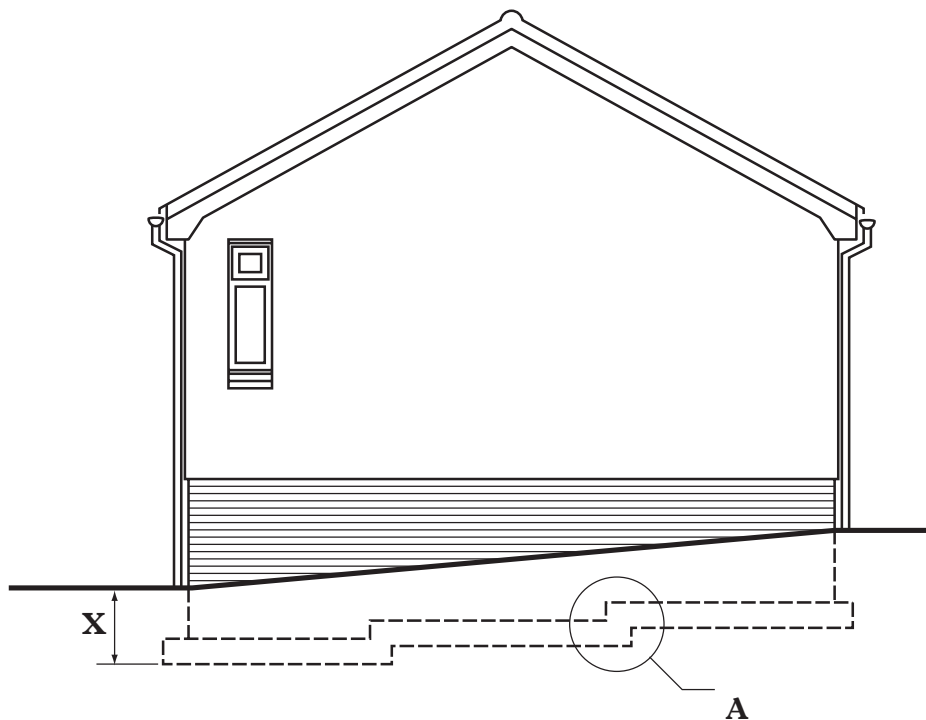

Figure Q3(b)
- (b) **Figure Q3(b)** shows the stepped foundation (dotted) to a gable of the house. Sketch and dimension the detail at **A** to illustrate compliance with current standards. 4
- (c) State the minimum depth of the foundation lettered **X** in **Figure Q3(b)**. 1